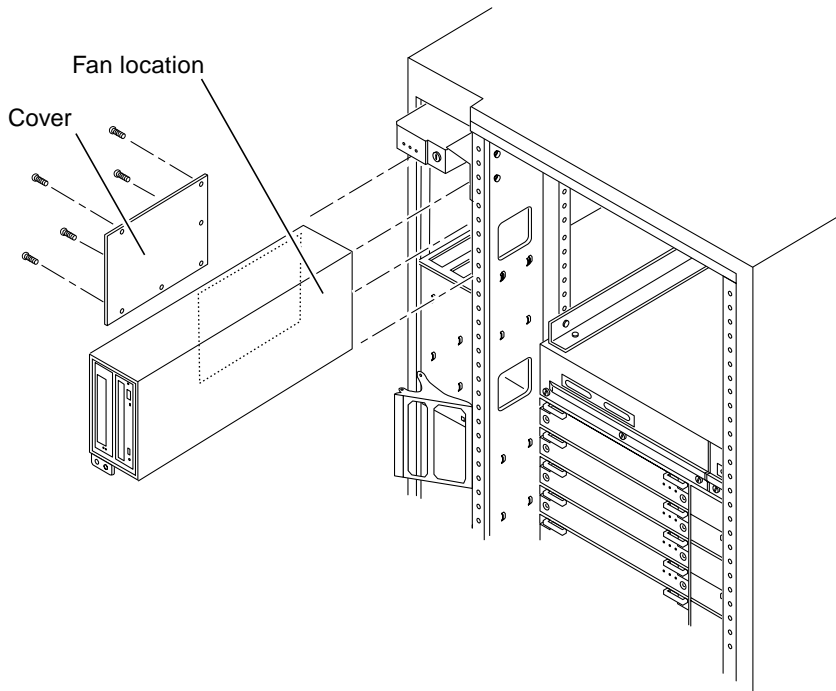

FIGURE E-5 Replacing the Fan in the Media Tray in the Enterprise 6500/5500 Systems
2. **Remove the side cover (FIGURE E-5) from the media tray.**